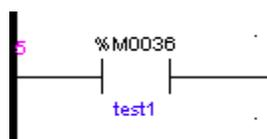

Fig.2.27 Execution order and point name
**【Execution Order】** : Mark out the execution orders of all function blocks at scanning state. As shown in Fig.2.27.
**【Point Name】** : Mark out the point names of all function blocks. Each point can be defined a name in the point table, when the point name is allowed to display, the defined name will also display at the bottom of function block. As shown in Fig.2.27: